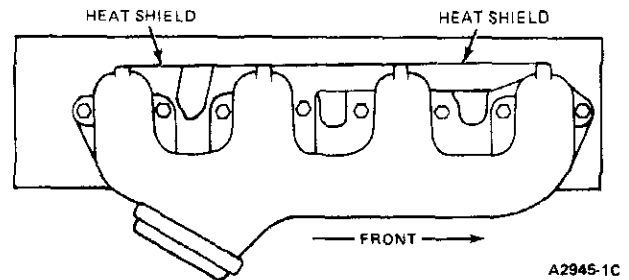

FIG. 20 Right Exhaust Manifold Installation
2. Position spark plug wire heat shields and exhaust manifold(s) on cylinder head(s). Install attaching bolts and washers, starting at fourth bolt hole from front of each manifold. Position lifting bracket under bolts at third exhaust port from front of engine. On right exhaust manifold, install shoulder stud(s) for air intake heat shield at first and sixth bolt holes from front of manifold (Fig. 20). Torque bolts to specification, working from center of manifold to both ends.